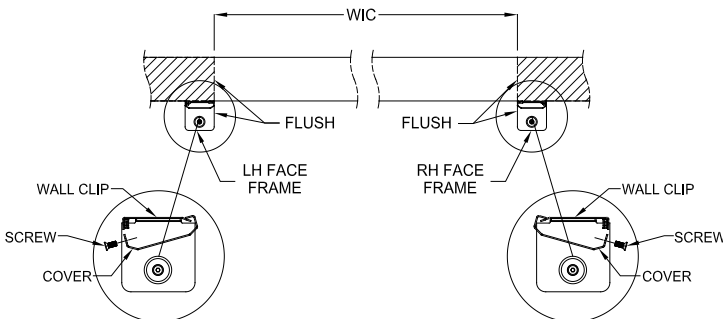

Figure 21: Fastening Face Frame Covers to Wall Clips
- Attach the face frame covers to the face frame wall clips with screws at locations shown in Figure 21 & 22.